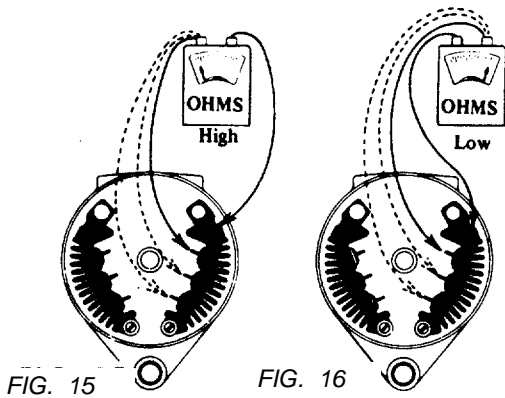

FIG. 15 | FIG. 16
1. Connect the negative test lead to the negative heat sink and touch the positive test lead to each diode terminal. If a low resistance reading is obtained or if the test lamp lights, the diode is shorted (see Fig. 15).